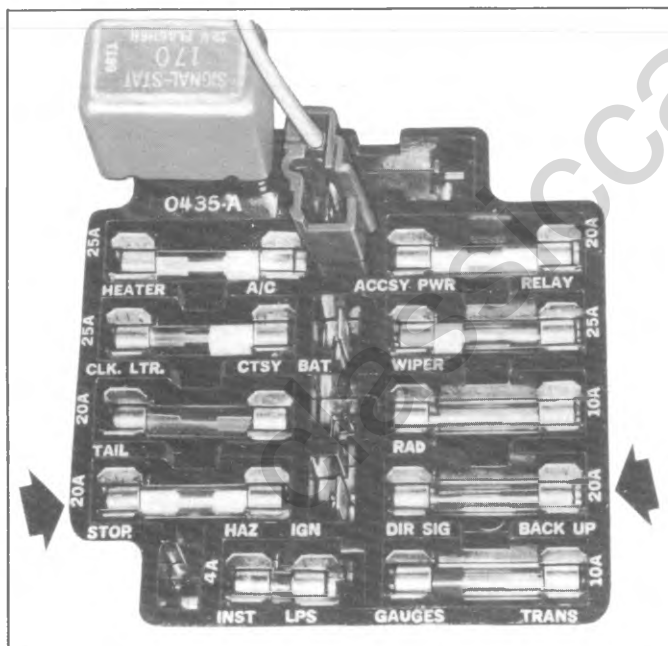

Fig. 3B-12--Checking Fuses on Fuse Block
1. **Check fuses** (Figure 3B-12). Replace if blown. If new fuse blows, replace flasher in system. (There are 2 flashers in the signal switch system. The hazard warning flasher and turn signal flasher are located on the fuse block.
2. Check for secure connection at the chassis to switch connector. This is the harmonica connector on the column (Figure 3B-13). Secure if loose. Check all individual wire terminals for proper seating in the connector bodies. Terminals should be locked in place.
3. Depress hazard warning button and check all lights in signal switch system. Replace any which do not work. If **all** lamps light when hazard warning is depressed, but flashing does not occur, replace hazard warning flasher. (On fuse block) (Figure 3B-14).